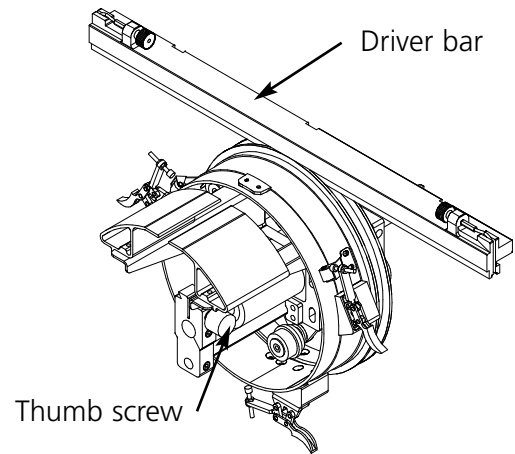

Figure 3-10
7. Tighten the thumb screws on the rear mounting bracket and on driver dove-tail support bracket (see Figure 3-10).